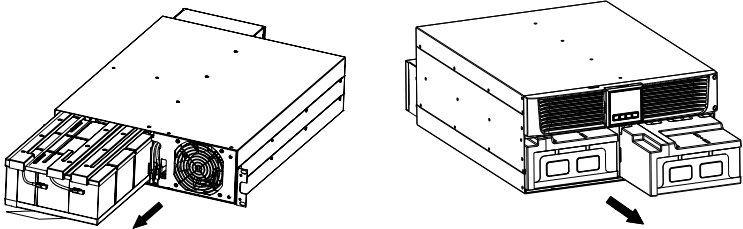

Figure 3.10: Removing the Battery Packs
3. Pull the battery tray out using the plastic tabs and then remove the battery tray.(see Figure 3.10)